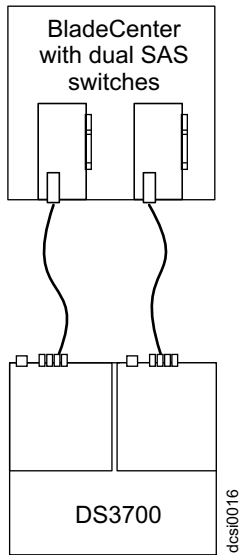

Figure 42. Example of DCS3700 connected to a single BladeCenter unit
2. To create a redundant host connection, connect a SAS cable from a second SAS connectivity module to a host connector on the other controller in the DCS3700. You can only create up to two redundant host connections in a dual-controller DCS3700, one connection each from the blade center to the DCS3700 controller host port as shown in Figure 42 on page 68.